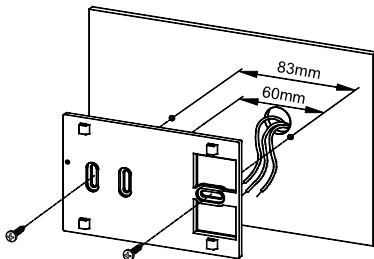
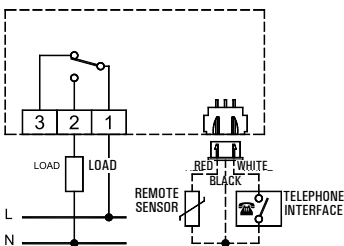

Fig. 2
Fig. 3
- 2 Fix the plate directly on the wall or onto 2 or 3 module junction boxes by means of the two holes for screws (distance between centres: 60 mm or 85mm), taking care to pass the wires through the opening as shown in Fig. 2.
- 3 Make electrical wirings by passing the wires through the rectangular opening in the wall plate (Fig. 2), and according to the diagram in Fig. 3.